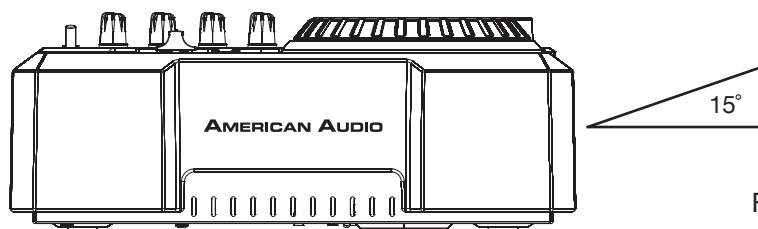

Figure 1
- The Encore 1000 will work normally when the unit is mounted with the front panel within 15 degrees of the vertical plane. If the unit is tilted excessively, discs may not be loaded or unloaded properly. (**Figure 1**)